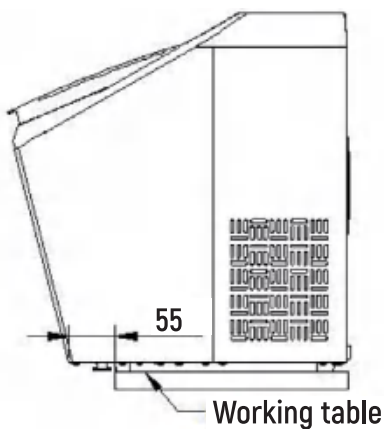
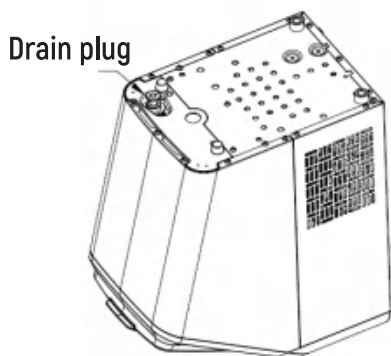
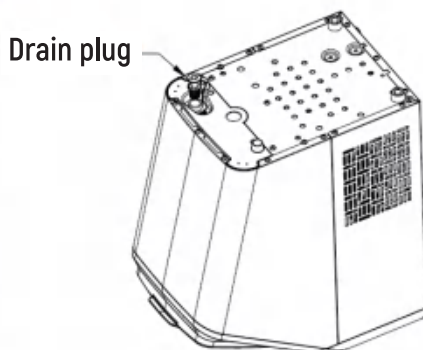

Fig.1
Fig.2
Fig.3
3. Move the appliance forward to a place 60mm away from the working table and open the drain plug to drain out excess water (see Fig.1, Fig.2 and Fig.3).